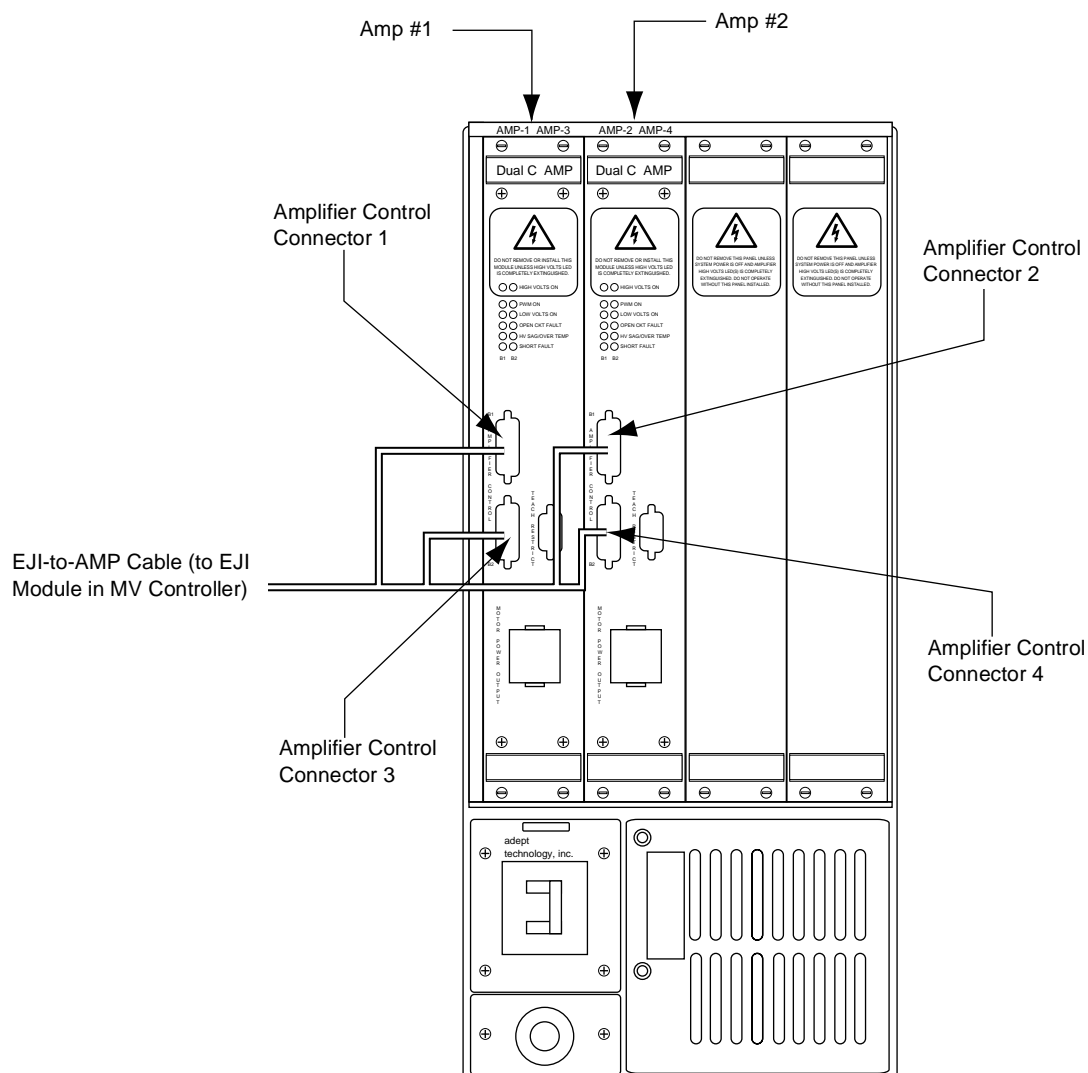

Figure 4-18. Power Chassis to EJI Cable Installation
2. The other end of the cable with four plugs must be connected in the following *special* pattern. See Figure 4-18 on page 76.